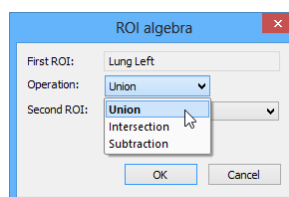

Figure 253 – ROI algebra dialog, defining the algebraic operation
3. Select the algebraic operation in the **Operation** combo box (see Figure 253).